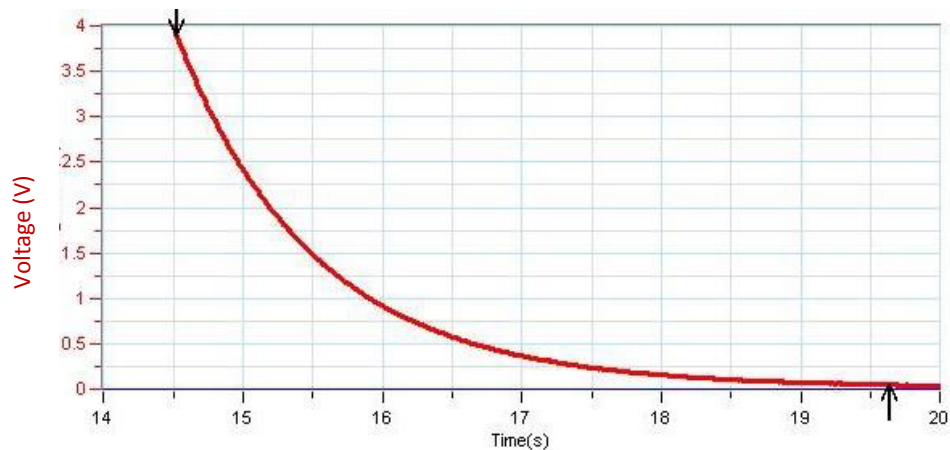

Figure 4
1. Zoom in on the discharge part of the graph using the **Zoom** tool () on the **Graph** toolbar (see Figure 4).
2. Use **two cursors** () from the **Graph** toolbar to select the part of the graph that doesn't contain zero or near zero voltage values (see Figure 4).